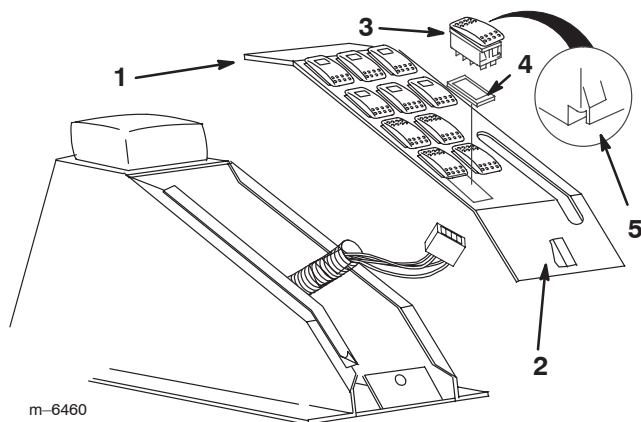

Figure 13
1. Remove the spray control panel to expose the bottom side (Fig. 13).
2. Lift and remove the sonic boom plug from the spray control panel on the vehicle and install the rocker switches provided in its place (Fig. 13).
Note: Ensure that the orientation of the switch matches what is shown in Figure 13, with the notch pointing toward the rear of the vehicle.